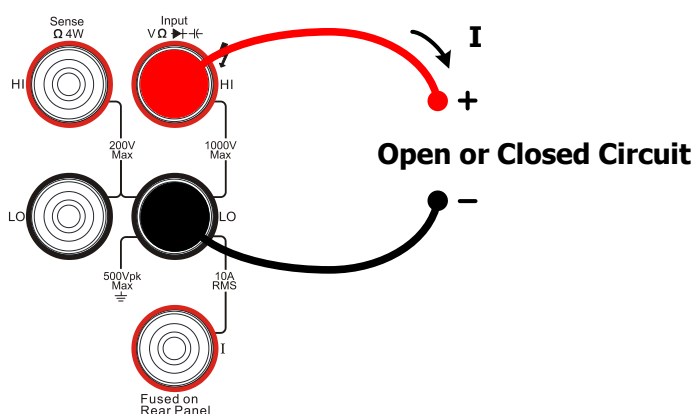

Figure 2-26 Sketch map for testing
1. Connect test leads as shown in figure 2-26. Red lead connects with HI Terminal; Black lead connects with LO Terminal.